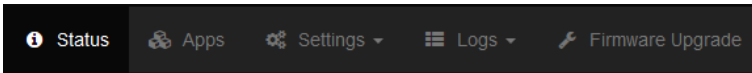

Figure 41
8. A web interface with a menu bar as in Figure 41 will be shown.